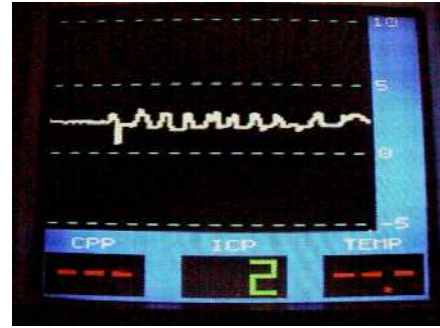

Figure 2-12 Line Graph Mode Display
- The graph mode can be either LINE or FILL (Figure 2-12).